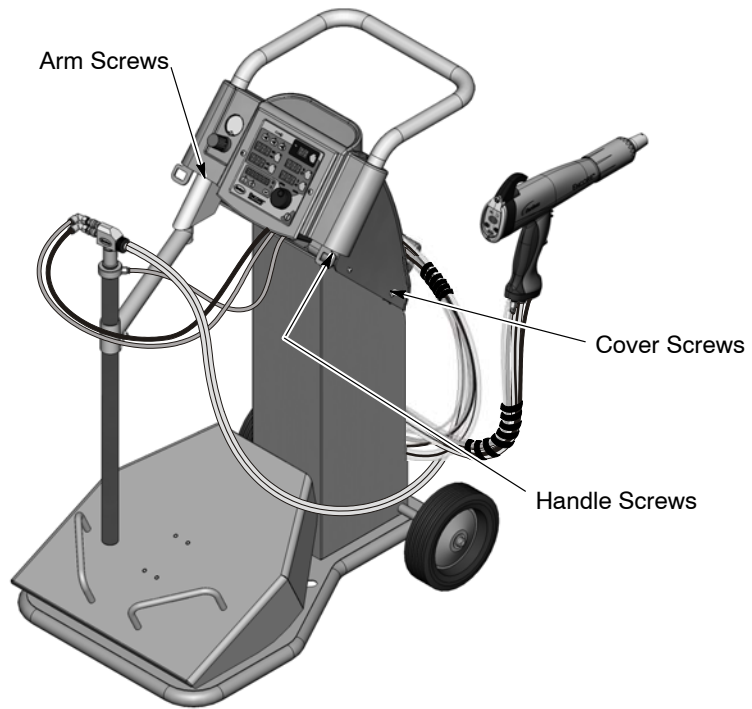

Figure 5-20 Arm Assembly Replacement
1. See Figure 5-20. To remove the old arm assembly, remove two screws from each side of the handle base, then remove the handle.